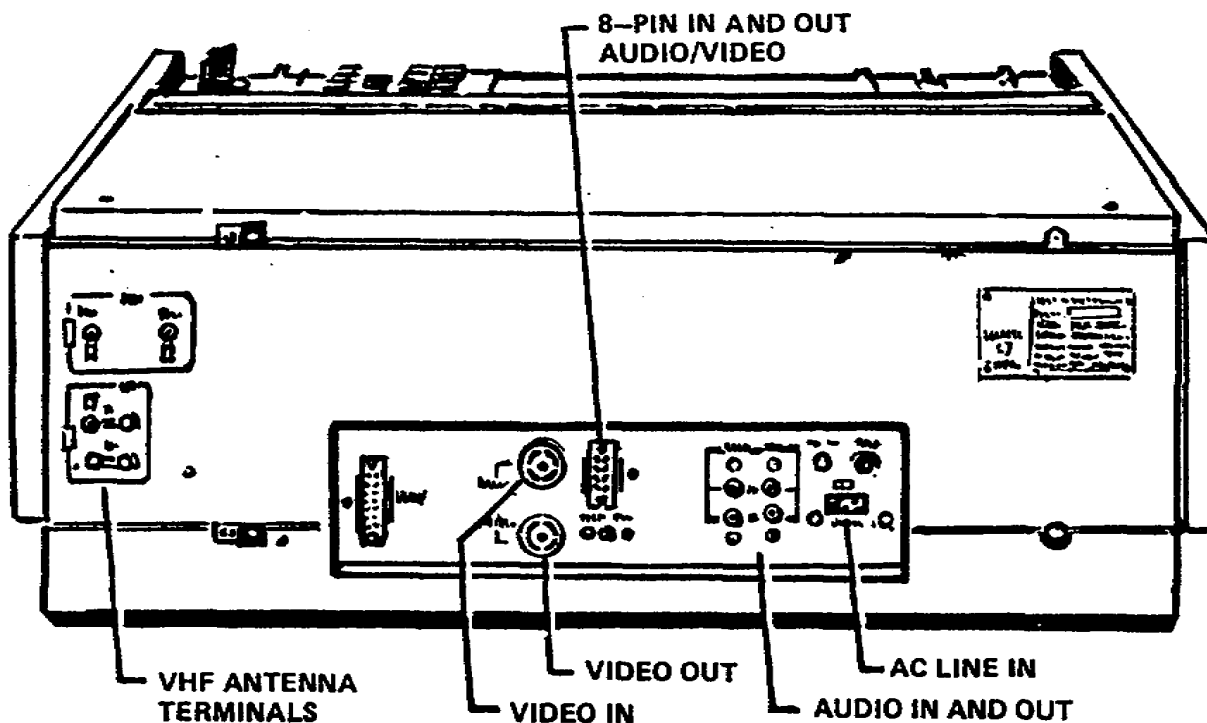
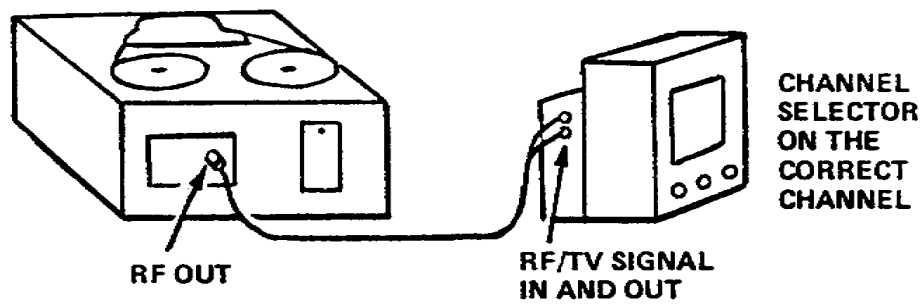

Figure 3-10. Standard pure video output
Figure 3-11. RF signal output
1. Two types of video outputs are provided on most machines. One is a standard pure video output (fig 3-10) which is a fully composite video signal, suitable for connecting directly to a monitor. The other output is an RF signal (fig 3-11 and 3-12), suitable for connecting to the antenna terminals of a home TV set. When the tape is in the playback mode a video signal is always present at both the video out and the RF out. In the record and editing modes, the input signals to the machine are seen at both outputs.